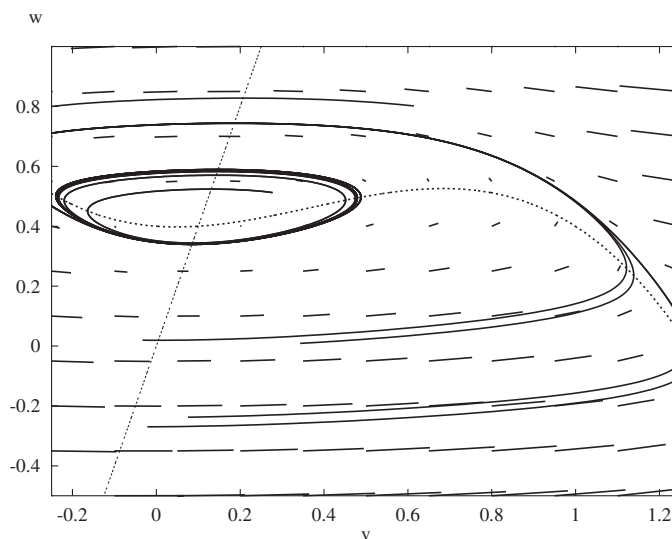

Figure 2.10. Nullclines, direction fields, and trajectories for $I = 0.4$ in the Fitzhugh–Nagumo equations.
XPPAUT can compute the nullclines for planar systems. To do this, just click on Nullcline New (**N N**). You should see two curves appear; a red one representing the v -nullcline and a green one representing the w -nullcline. The green one is a straight line and the red is a cubic. They intersect just once: there is a single fixed point. Move the mouse into the phase-plane area and hold it down as you move it. At the bottom of the **Main Window** the x and y coordinates will appear as you move the mouse. The intersection of the nullclines will appear to be at (0,0). Figure 2.10 shows a printout along with a representative trajectory when the parameter $I = 0.3$.
Let's make a picture that has the nullclines, the direction fields, and a few representative trajectories. Since *XPPAUT* keeps only the last trajectory computed, we will "freeze" the solutions we compute. You can freeze all trajectories automatically or freeze them one at a time. We will do the former. Click on **Graphic stuff (F)reeze (O)n freeze (G F O)** to permanently save computed curves. Up to 26 can be saved in any window. Now use the mouse to compute several trajectories. Draw the direction fields by clicking **Dir.field/flow (D)irect Field (D D)**. Finally, label the axes. Click on **Viewaxes 2D (V 2)** and the two-dimensional view dialog box will appear. Change nothing but the labels (the last two entries), and set **V** as the **Xlabel** and **w** as the **Ylabel**. Click on **Ok** to close the dialog box. Finally, since the axes are confusing in the already busy picture, click on **Graphic stuff axes opts (G X)**, and in the dialog box change the 1's in the entries **X-org(1=on)** and **Y-org(1=on)** to 0's to turn off the plotting of the X and Y axes. Click **Ok** when you are done. Now create a PostScript file (**Graphic stuff (P)ostscript (G P)**) and accept all the defaults. Name the file whatever you want and click on **Ok** in the file selection box. Figure 2.10 shows the version that I have made. Yours will be slightly different. If you want to play around some more, turn off the automatic